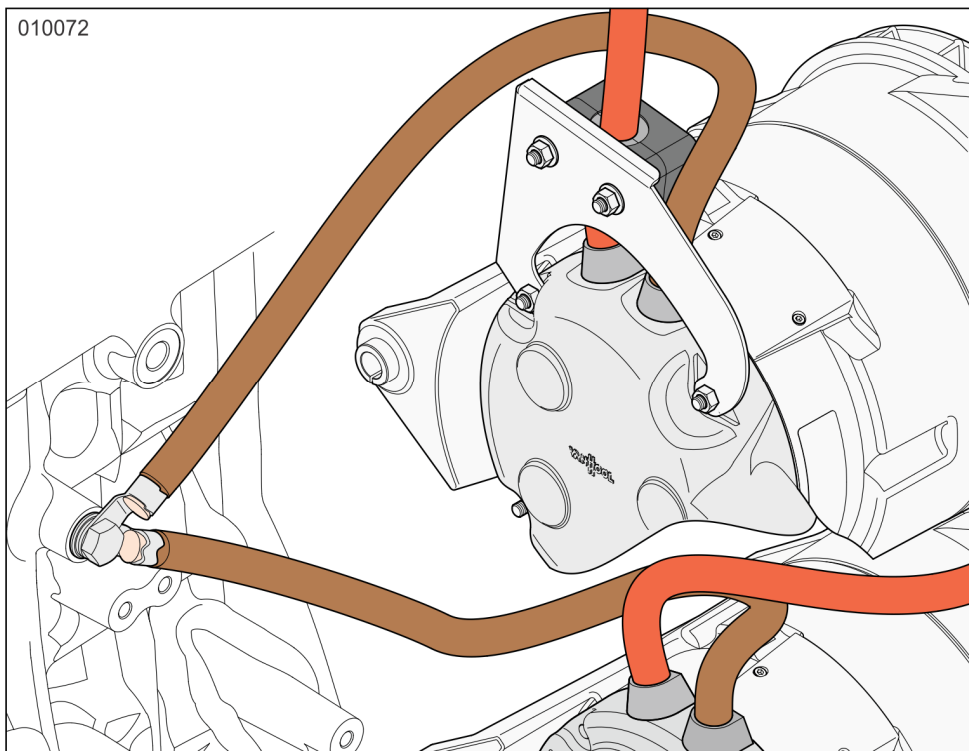

Figure 9
- 14) Secure the ground cable of both alternators to the engine block. Tightening torque of screw: 16 ft.lbf (21 Nm) (Figure 9).